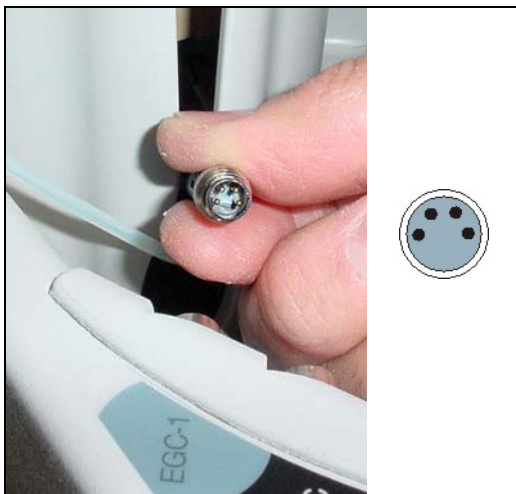

Figure 5-43. Connecting the Dionex EluGen Cartridge Cable
- Orient the cartridge's blue 4-pin electrical cable connector as shown in Figure 5-43. Push it onto the **EGC-1** connector on the Dionex ICS-2100. Twist the ring on the cable connector fingertight to secure it.